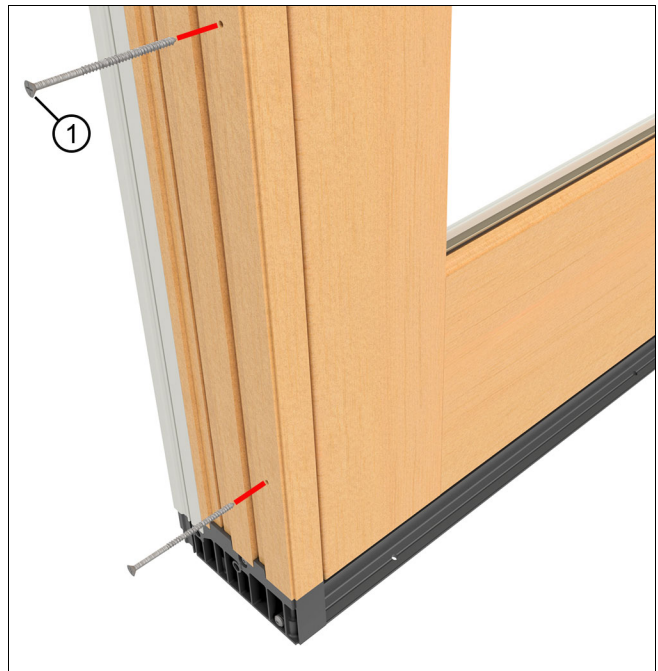

Figure 44
17. Fasten the jamb to the panel with the #8 x 3" flat head screws. See Figure 44.